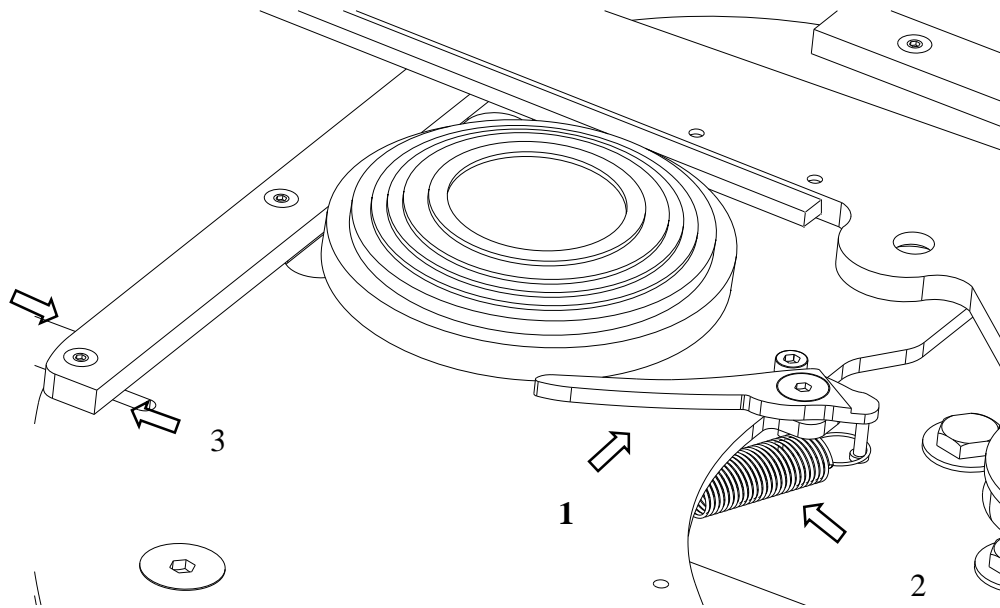

Fig. 16
In case of breakages of the target during the throwing, to be sure that the component that put near the target (1) places correctly the target such as seen in figure 16. In the case all that
The targets result broken DURING the launch	<ul style="list-style-type: none"> • The throwing spring is regulated for a launch more than 80 meters ; • The rubber list is damaged ; • The target is not near to the rubber list by means of the targets leaning (fig 16) • Throwing ramp is regulated in a wrong way.